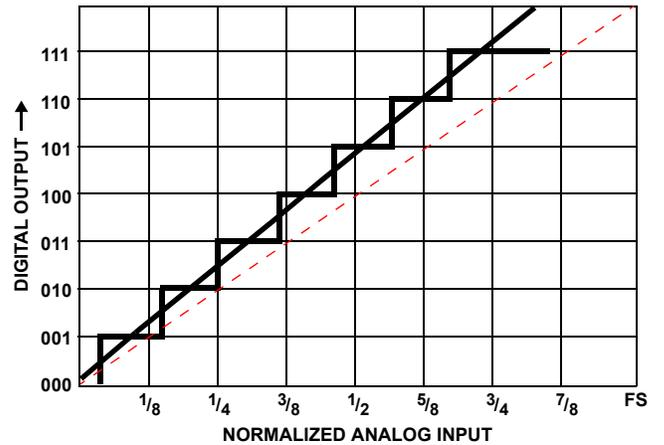

FIGURE 10. GAIN ERROR
**Gain Error.** The difference in slope between the actual transfer function and the ideal transfer function, expressed as a percentage. This error is generally adjustable to zero by adjusting the input resistor in a current-comparing successive approximation A/D. See Figure 10.
**Gain Temperature Coefficient.** The deviation from zero gain error on a 'zeroed' part which occurs as the temperature moves away from 25°C. See Figure 10.